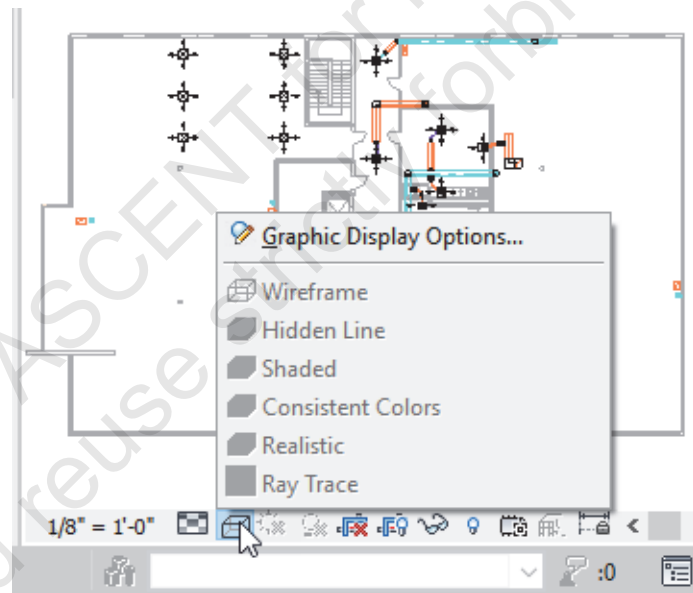

Figure 1–151
9. Review the View Control Bar options. Note that you cannot make any changes to the view controls of this view, as shown in Figure 1–151.